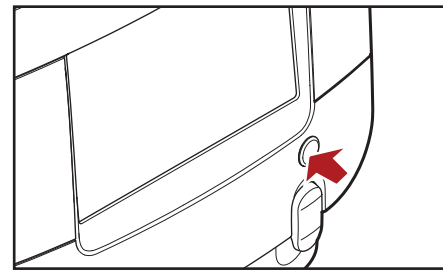

Fig. 4.10- Free flow delivery of hot water
- Free flow delivery of water with the hot water button, see fig. 4.10 on page 14.
2. Press the hot water button and hold it pressed until the requested volume of hot water is delivered (fig. 4.10).